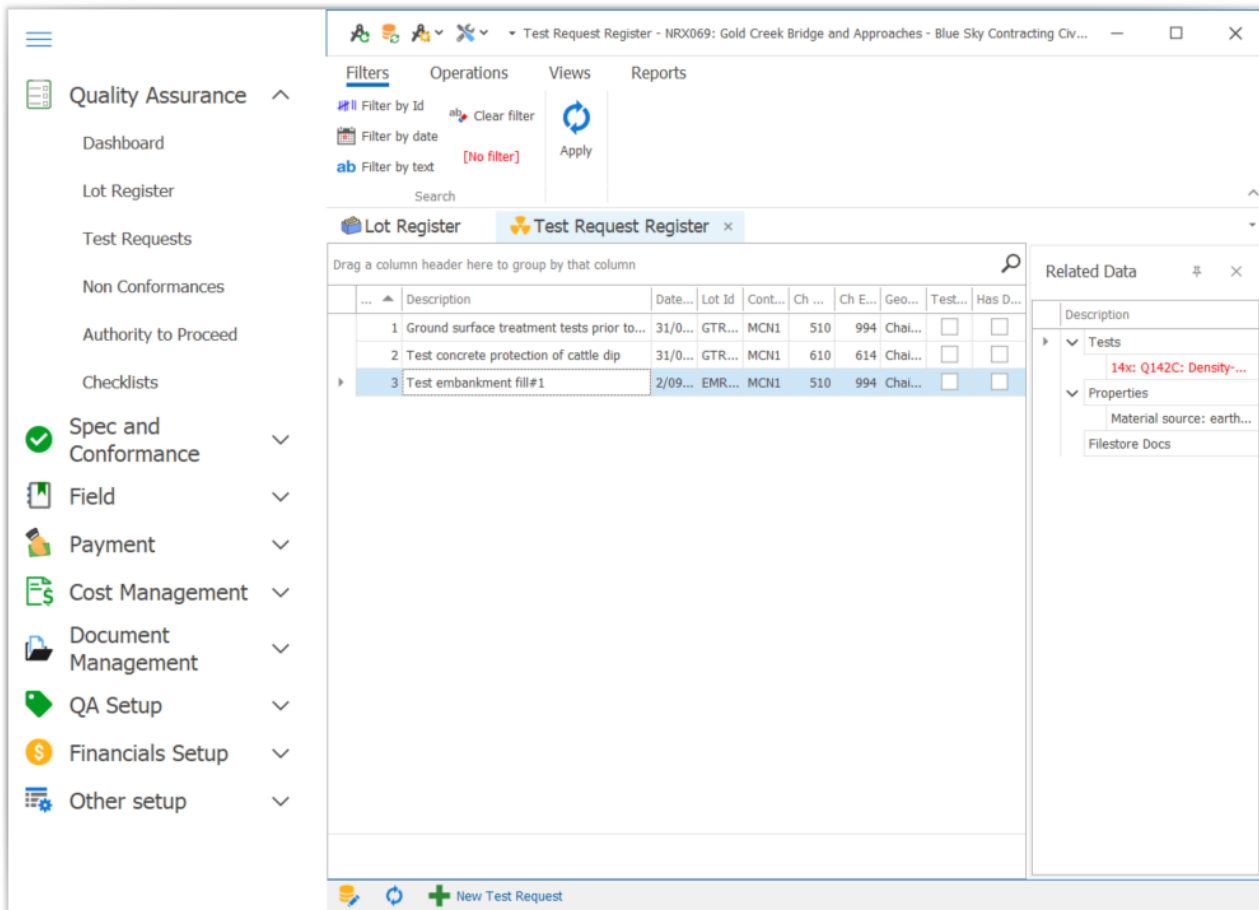

Figure 101 Test request register with additional tests
9. Add in the property group manually by typing in directly to the grid, then press *Save & Finish*. When completed your Test Request Register should look like that in Figure 101.